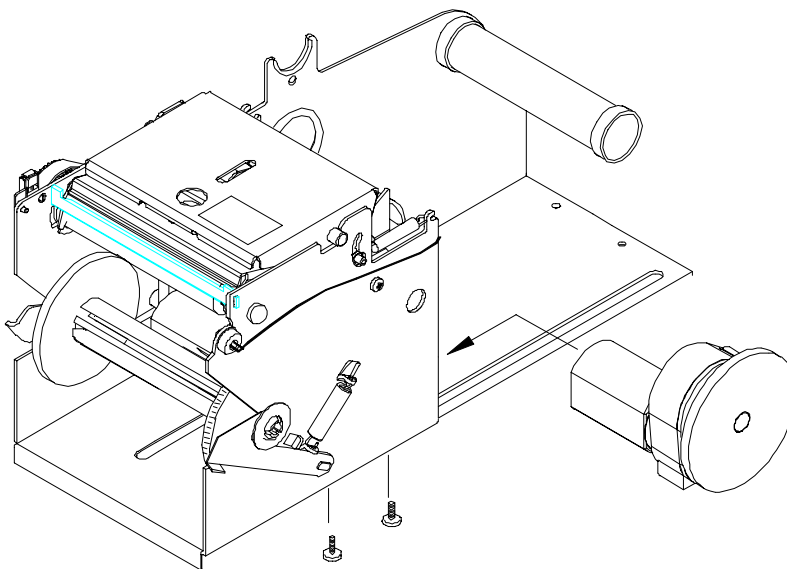

Figure 6-2: Take Up Motor Replacement
- PC to Model 2450 Host Cable (Refer to Chapter 6 Interfacing Figure 6-2).